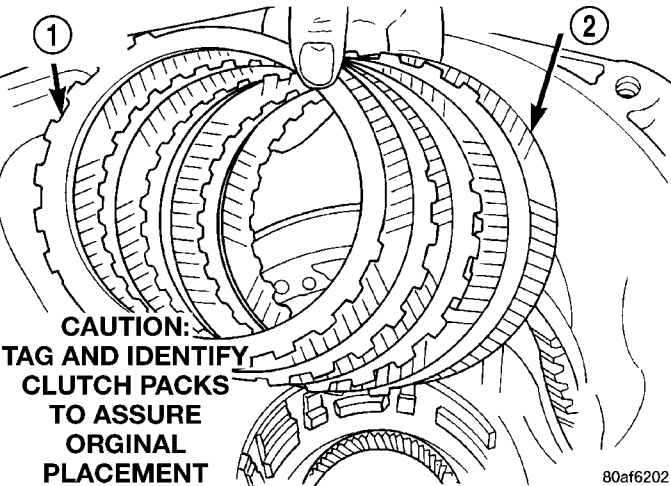

Fig. 130 Install 2/4 Clutch Pack
(44) Install 2/4 clutch pack (Fig. 130).